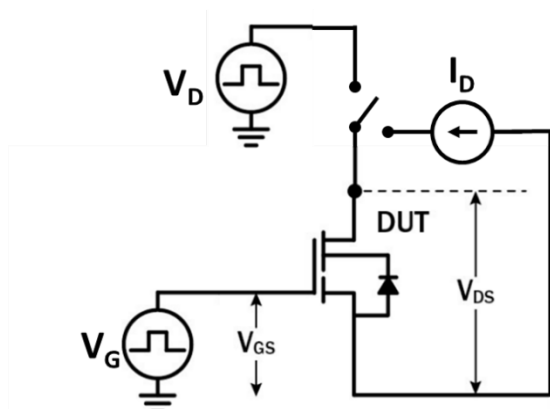

Figure 20. Dynamic $R_{DS(on)eff}$ Test Circuit
1. Dynamic $R_{DS(on)}$, 100% tested; see Figure 20 and Figure 21 for conditions.